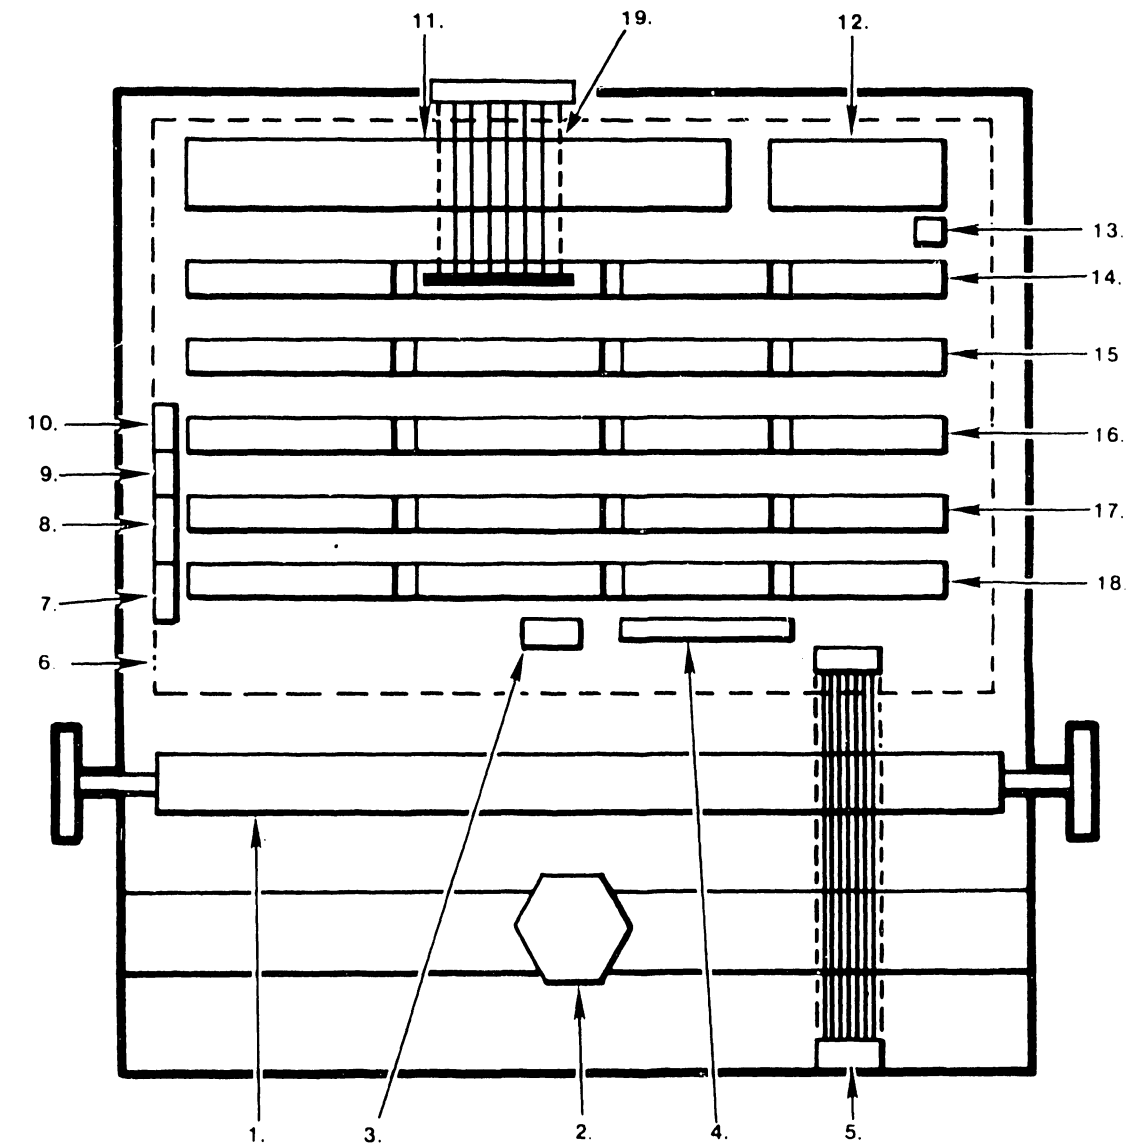

FIGURE 1-2 WANG DAISY PRINTERS PCB
Table 1-1 lists the chassis, PCB's and cables used in the printers for various system configurations. Figure 1-2 shows the printed circuit board locations for the different system configurations.
Only one motherboard (WPN 210-7462) is used in all versions of the Wang Daisy Printer. BNC and TNC connectors are standard on all motherboards. For parallel I/O cable interfacing (5541W/WC), a female cable (WPN 220-3069) is mounted to the chassis then internally connected to the top of interface PCA 210-7449 or 210-7449-1 as shown in 19, Figure 1-2. For the 2200 system using 7443-1B, 7309A or 7726A PCB's an I/O cable (WPN 220-0161) is inserted into the right most connector of the memory slot (nearest the fan), routed to the right and then in front of the ON/OFF switch, along the rear panel and out through the cutout in the rear panel to the system as shown below:
6. Check that the required PCB's are installed in the appropriate locations as listed in Table 1-1 and shown in Figure 1-2.
* SEE FIGURE 1-2 FOR PCB LOCATIONS. KEEP HANDS AWAY                 *